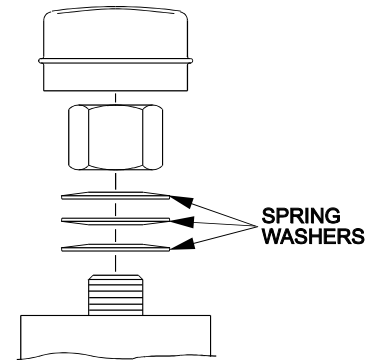

FIGURE 12
- a) Remove dust cap from caster and tighten nyloc nut until washers are flat and back off 1/4 of a turn to properly set the pre-load on the bearings. If disassembled make sure the spring washers are reinstalled as shown in Figure 12.